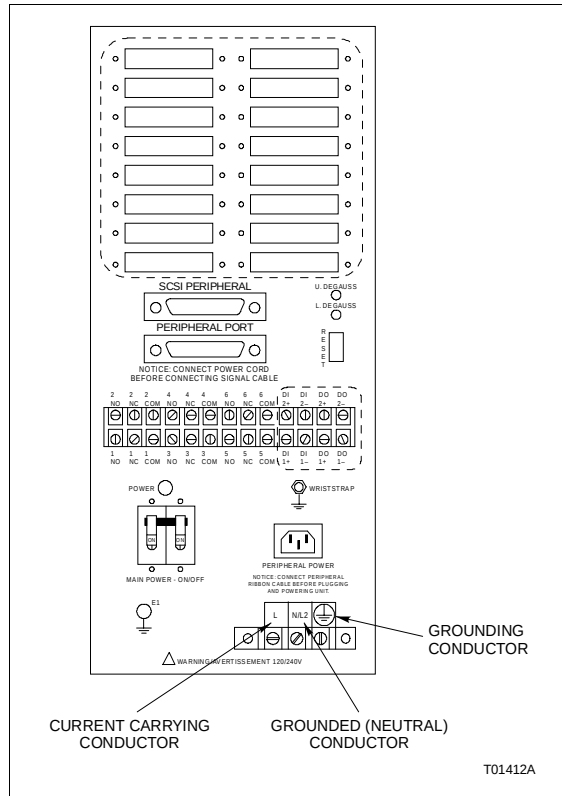

Figure PR5-3. Console Model Power Wiring
- ☐ 3. Use the bladed screwdriver to connect the power wires to the appropriate locations on the terminal block as shown in Figure PR5-3.